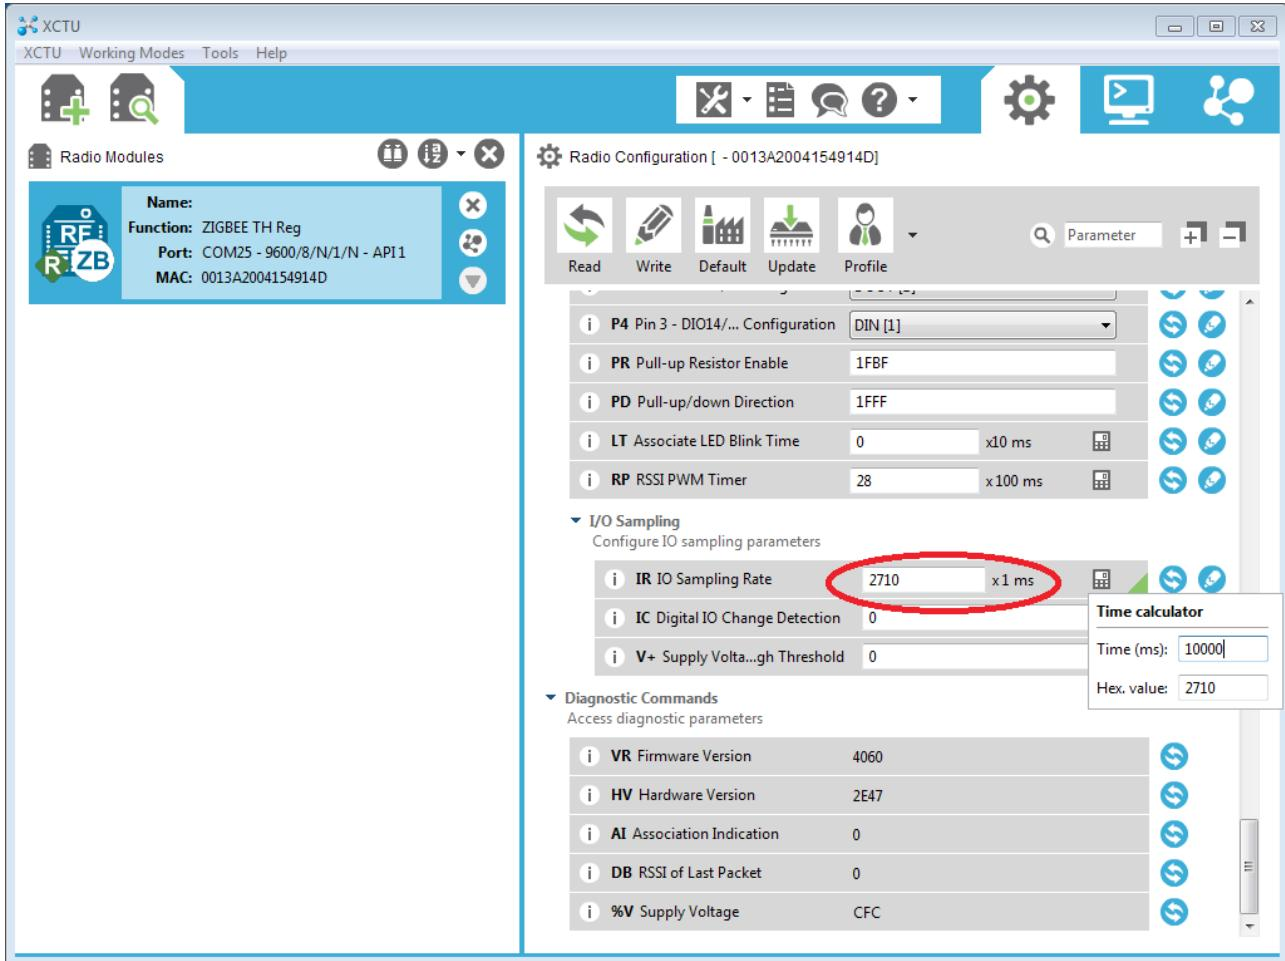

Figure 25 – Using XCTU to configure periodic sampling
As well as this queried sampling mode, we can configure the radios to periodically sample the sensors every so often. We do this by setting the IO Sampling Rate (IR) in XCTU (as shown in Figure 25). This sampling rate is in hexadecimal, but XCTU has handily provided a calculator to do the conversion!